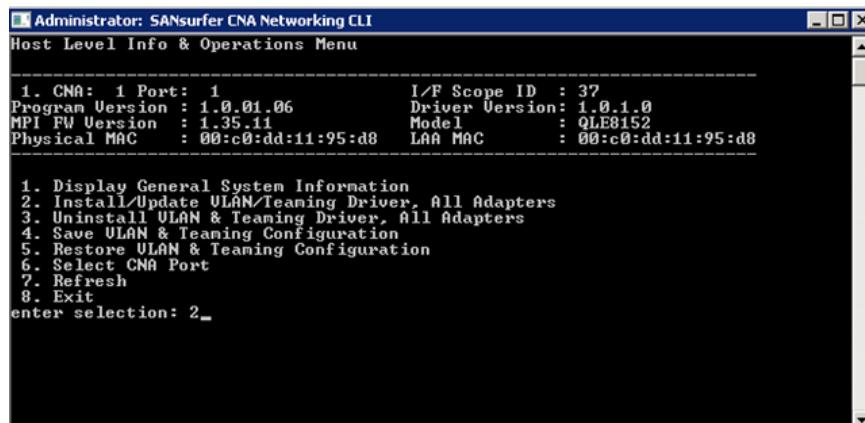

Figure 6-11. Host Level Info and Operations Menu
4. Type 2 and press ENTER in the Host Level Info and Operations Menu to select **Install/Update VLAN/Teaming Driver, All Adapters** (Figure 6-11).